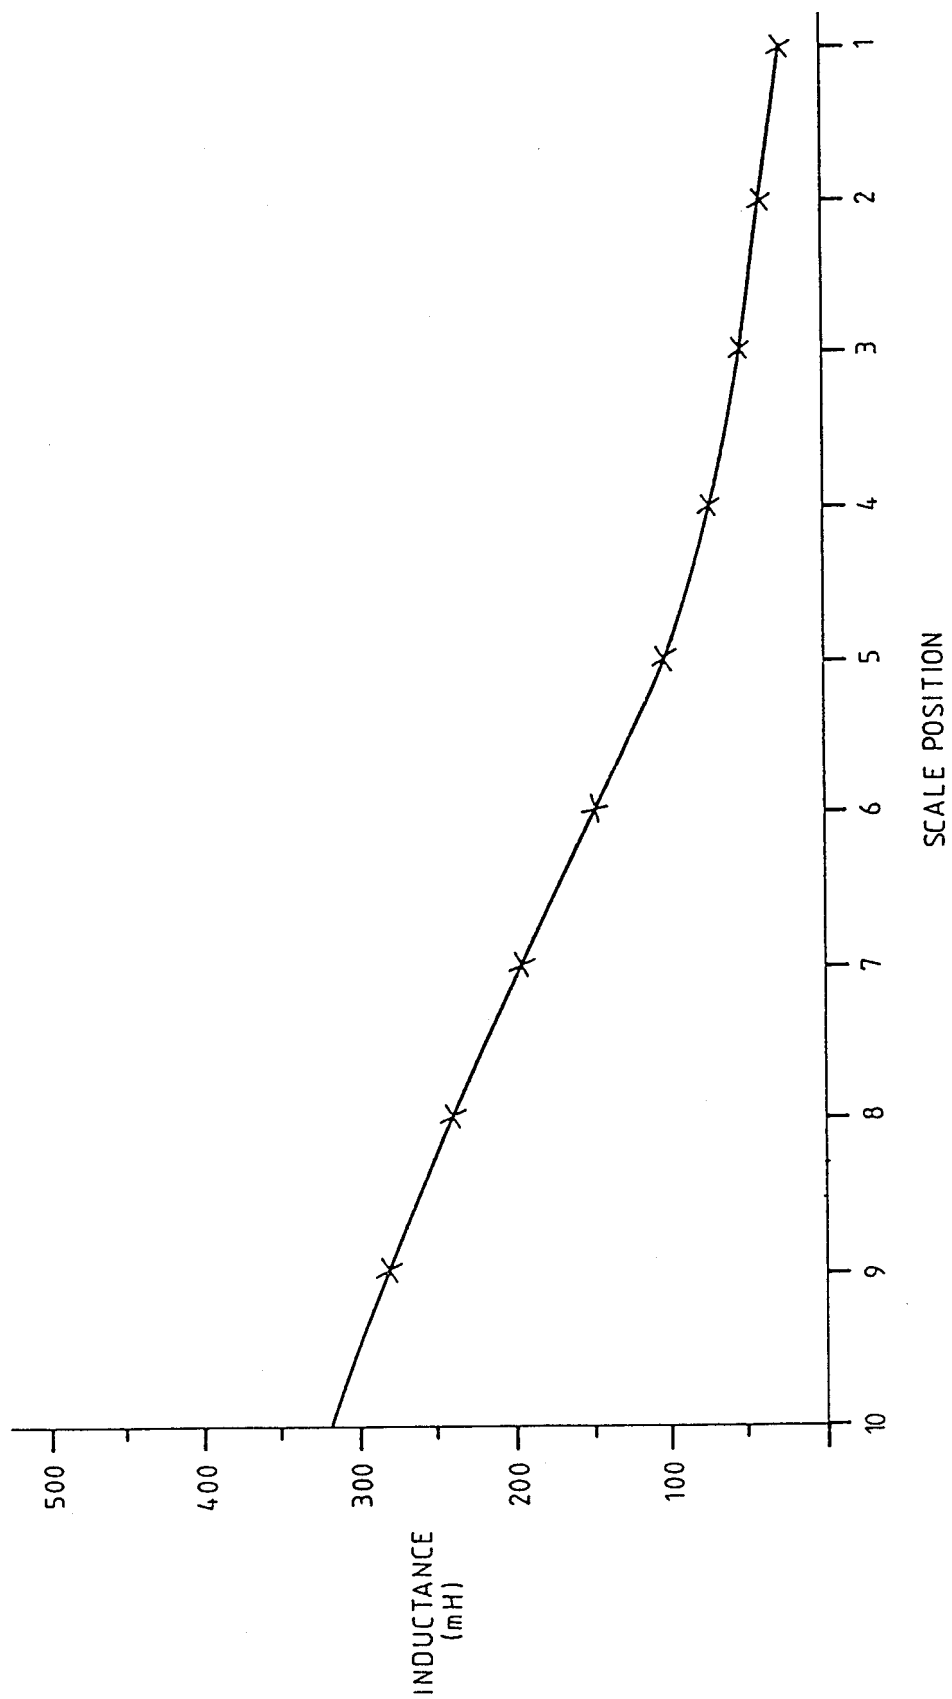

Fig. 1.3 Measured Inductances vs Scale Values 50Hz
3. Set each of the variable inductors L_A , L_B , L_C , to 250mH from the calibration graph. (Fig. 1.3)